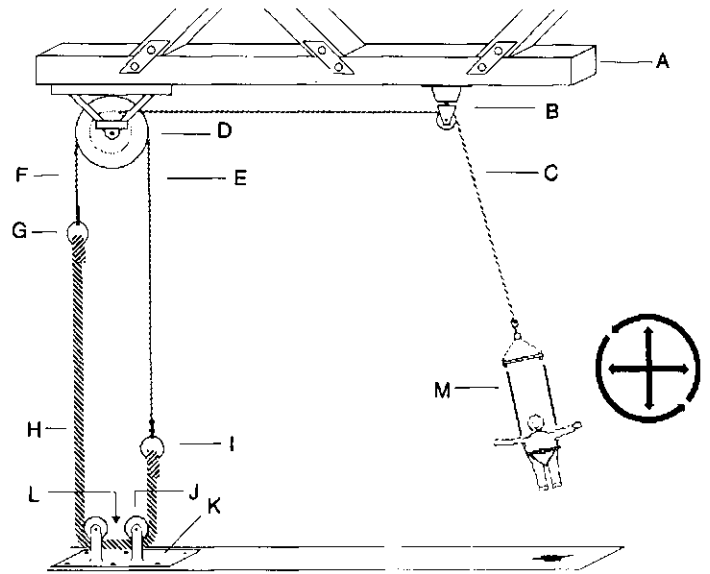

Figure 7-38 Five-directional pendulum (Peter Pan) rig
The Pendulum Rig (Peter Pan Rig) This rig is the most complicated of all flying devices and demands the most comprehensive rehearsal and coordination between the effects person and the performer (Figures 7-38, 7-39, and 7-40). This rig is used almost exclusively in the theatre.
1. Drums A, B, and C revolve independently of each other on shaft (K) when all four locking rods (E) are removed.
4. 2-inch cotton rope (Figure 7-38 H) is connected to drum A's O ring (P) and fed through the double floor sheave (Figure 7-38 J) and attached to the O ring of drum C.
6. Drum B's cable is fed through the swivel sheave (Figure 7-38 B) and dropped to the stage.